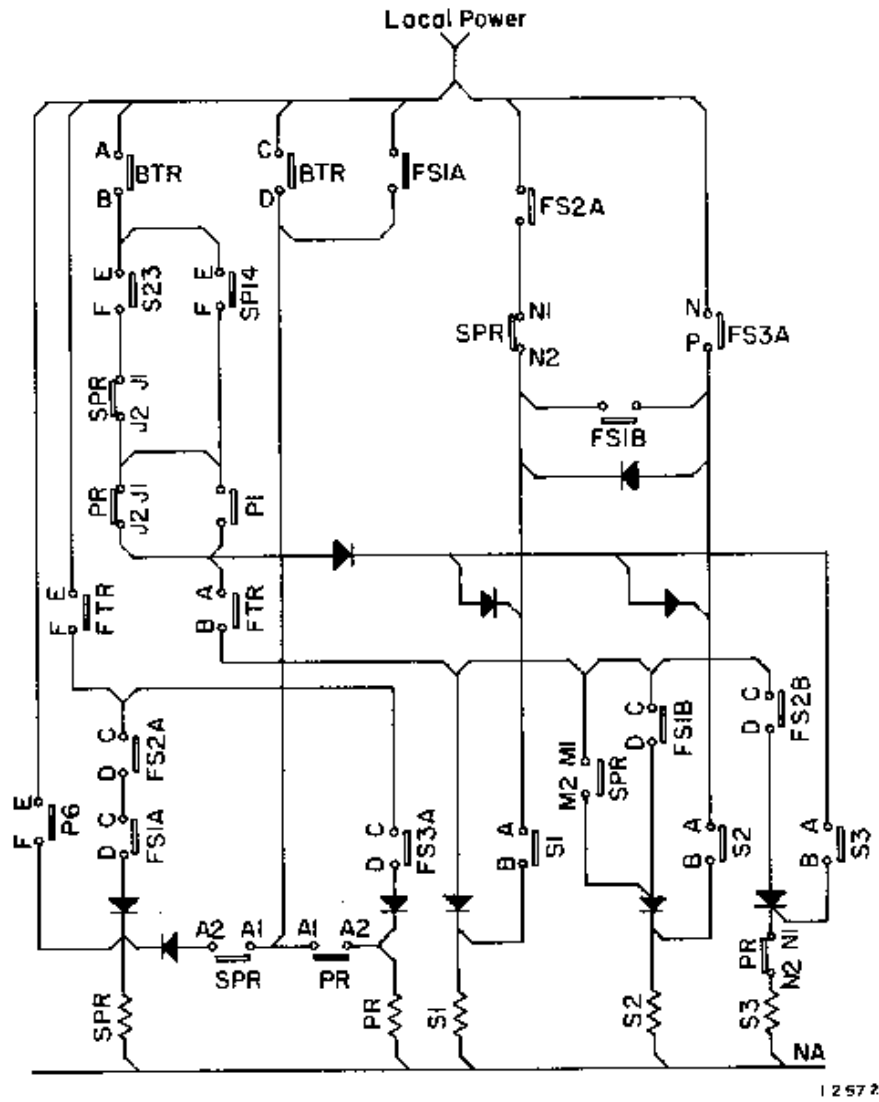

Fig. 6-12 - Transition Control Circuits
2. FTR A-B contacts closing, Fig. 6-12, energizes the S1 relay coil through the already closed C-D contacts of GFR, A-B contacts of BTR, and the E-F interlock of S23, and through the normally closed J1-J2 interlocks of series-parallel relay SPR and parallel relay PR.
2. Closure of FTR A-B contacts energizes step relay S2 through now closed C-D interlock of FS1B, Fig. 6-12. The A-B contacts of S2 close to seal S2 in against FTR dropout.
2. Closure of FTR A-B contacts energizes step relay S3, Fig. 6-12, through now closed C-D interlock of FS2B and normally closed N1-N2 contacts of PR. The A-B interlocks of S3 close to seal S3 in against FTR dropout.
4. Pickup of the C-D contacts of both FS1A and FS2A, Fig. 6-12, has set up the circuit for pickup of SPR the next time FTR picks up.
10. G1-G2 contacts of SPR and G-H interlocks of SP36, SP14, SP25, S36 and S14 are closed to pickup SF and BFA, Fig. 6-4. The E-F interlock of SP14, Fig. 6-12, closes to again set up circuits to respond to further FTR pickup.
4. The C-D contacts of FS2B, Fig. 6-12, closed after FTR dropped out, therefore S3 did not pick up. However, the circuit is set up for pickup of S3 the next time FTR picks up.
4. The C-D interlock of FS3A, Fig. 6-12, closing after FTR dropout, did not pick up parallel relay PR, but the circuit is set up for PR pickup the next time FTR picks up.
2. Contacts E-F of FTR close to energize the coil of parallel relay PR, Fig. 6-12, through the now closed interlock C-D of FS3A.
2. Control current through closed A-B contacts of BTR, Fig. 6-12, closed E-F interlocks of SP14 and P1, and through closed A-B contacts of FTR energizes step relays S1 and S2. The circuit to S2 is established by closed M1-M2 contacts of SPR. The A-B contacts of S1 and S2 close to seal the relay in against FTR dropout.
5. The opening of PR contacts N1-N2, Fig. 6-12, prevent pickup of S3 should FTR pick up again.
7. Closure of the E-F interlock of P6, Fig. 6-12, prevents SPR dropout should the locomotive slow down and BTR drop out.
1. When the locomotive begins to slow down, system voltage drops and BTR drops. The A-B contacts of BTR opening, Fig. 6-12 interrupts current flow to the magnet coils of S1 and S2.
1. As locomotive speed further decreases, BTR again drops out. BTR C-D contacts opening de-energize PR, Fig. 6-12, but the E-F contacts of P6 hold SPR picked up. The G1-G2 contacts of PR, Fig. 6-4, opening, drops out the shunt field contactor SF and battery field auxiliary contactor BFA.
1. When the locomotive begins to slow down, system voltage drops and BTR drops out. The A-B contacts of BTR opening, Fig. 6-12, interrupts current flow to the magnet coil of S3.
2. Step relays S1 and S2 are held energized by current through the N-P interlock of FS3A, Fig. 6-12, which is still picked up, and through holding contacts of S1 and S2.
1. When BTR drops out with a further decrease in speed, the C-D contacts, Fig. 6-12, open to drop out SPR. G1-G2 contacts of SPR, Fig. 6-4, opening drops out the shunt field contactor SF and battery field auxiliary contactor BFA. The P1-P2 contacts of SPR, Fig. 6-6, open to drop out power contactor SP25.